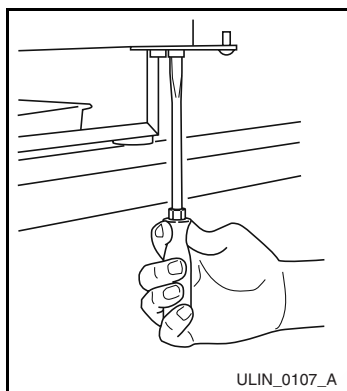

Figure 16
6. Remove bottom hinge from cabinet (four screws) and screws on opposite side of cabinet (**Figure 16**).